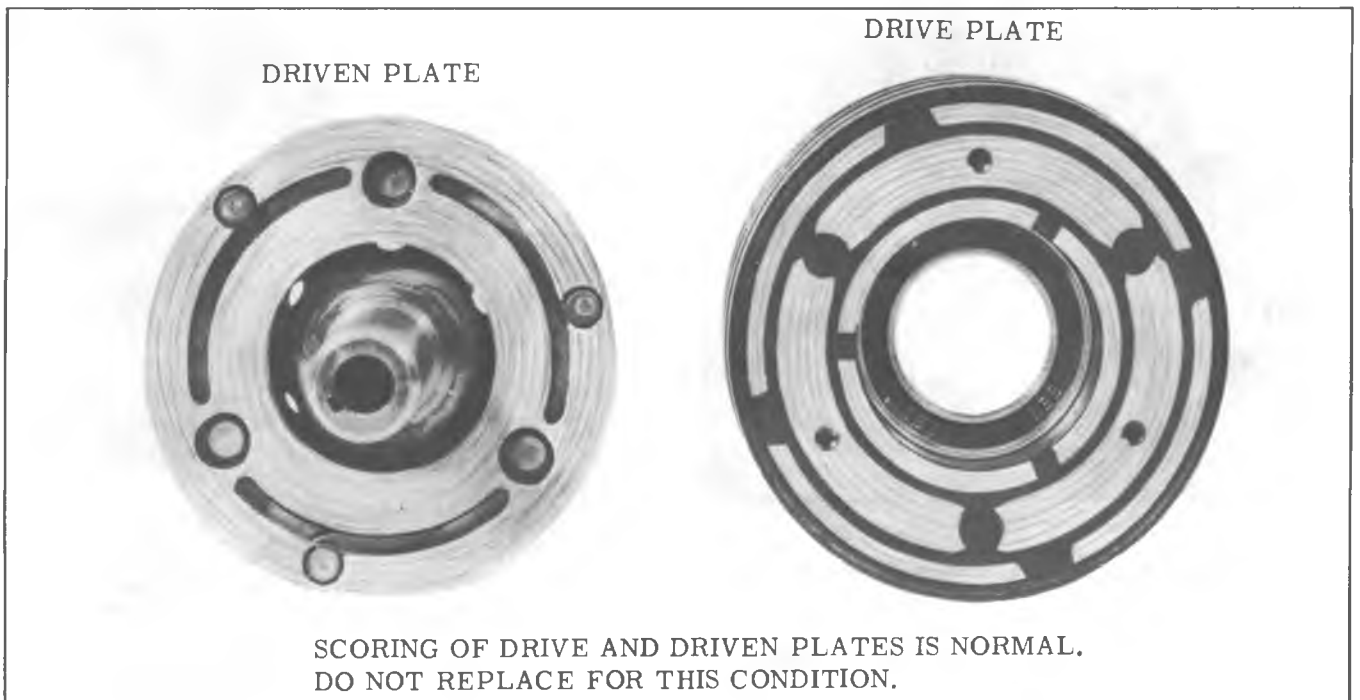

Fig. 6--Clutch Driven Plate and Drive Plate
6. Inspect driven plate for cracks or stresses in the drive surface. Do not replace driven plate for a scoring condition. (Fig. 6).
Check the appearance of the pulley and bearing assembly. See Fig. 6. The frictional surfaces of the pulley and bearing assembly should be cleaned with a suitable solvent before reinstallation.